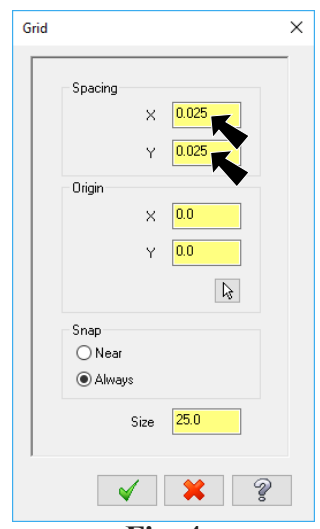

Fig. 4
Step 3. In the Grid Settings dialog box: under Spacing, **Fig. 4**